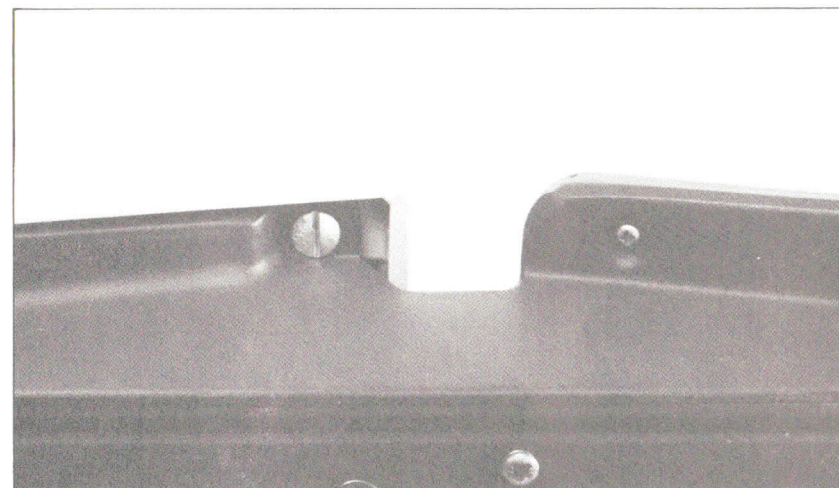

Figure 2-1. Apple III Cover Attachment Screw Locations
- 7 Figure 2-1 Apple III Cover Attachment Screw Locations
The cover is attached to the case of the Apple III by two captive screws (Figure 2-1) located on the underside of the left and right corners of the face of the computer. Using a short, flat-blade screwdriver, turn each of these screws one-quarter turn in either direction.